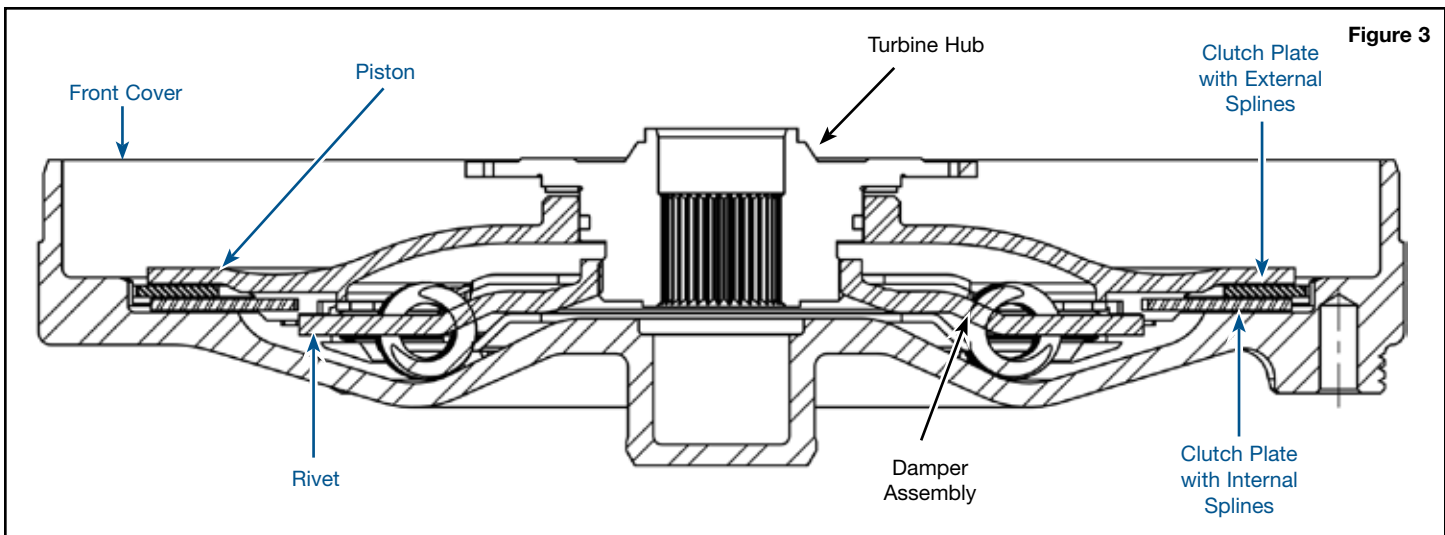

Figure 3
- d. Place the two clutch plates and piston damper on to the cover (**Figure 3**).